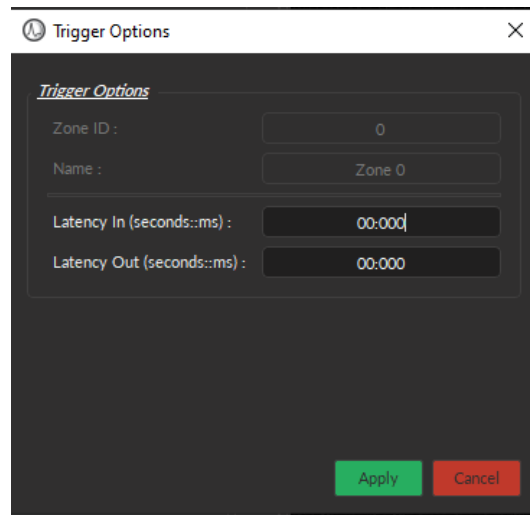

Figure 6.25: *Trigger Options*
- i. The **Latency In** (Fig. 6.25) specifies the amount of time that the mouse must be inside the zone before triggering the closed-loop stimulation. This parameter is important to prevent false positives when the animal enters the zone for a very short period of time.
- ii. The **Latency OUT** (Fig. 6.25) specifies the delay once the animal leaves the zone before the stimulation is terminated.